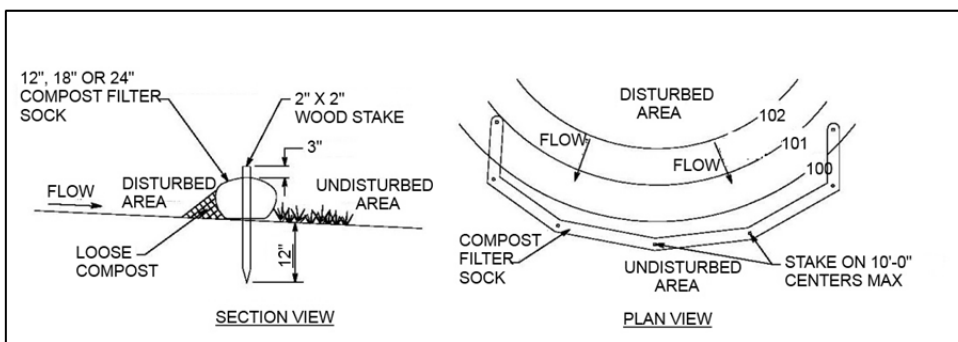

Figure 48: Compost Filter Sock
- See **Figure 48** for construction details.